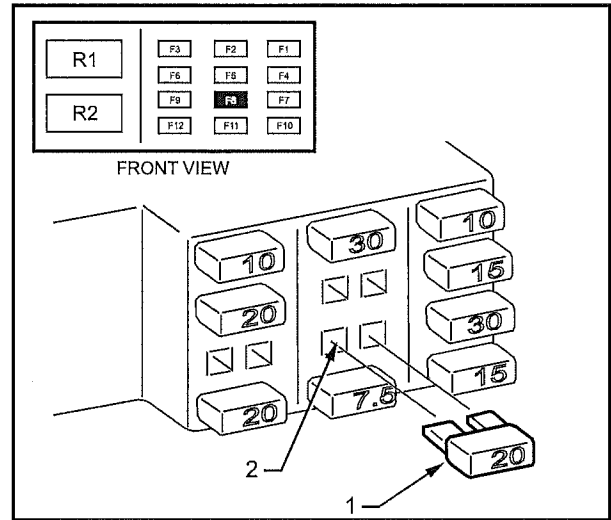

FIGURE 9
- 12. Fit the 20 Amp fuse (1) supplied into the fuse position F8 (2) of the fuse box. Refer to Figure 9.
- 13. Loosely refit side trim (1) in position.